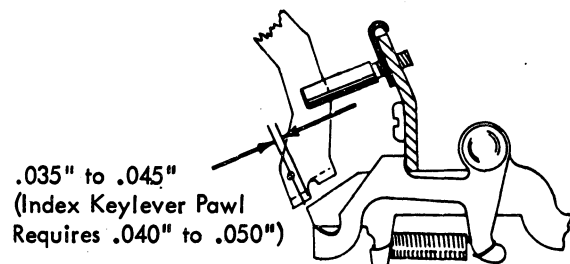

FIGURE 157. Keylever Pawl Overlap Adjustment
1. **Keylever Pawl Overlap** - Adjust each keylever pawl guide stud so that all the keylever pawls, except the index keylever pawl, overlap their respective interposers by .035" to .045" with both parts at rest (Fig. 157). The index keylever pawl guide should be adjusted for .040" to .050" overlap. The overlap insures proper repeat/non-repeat action.